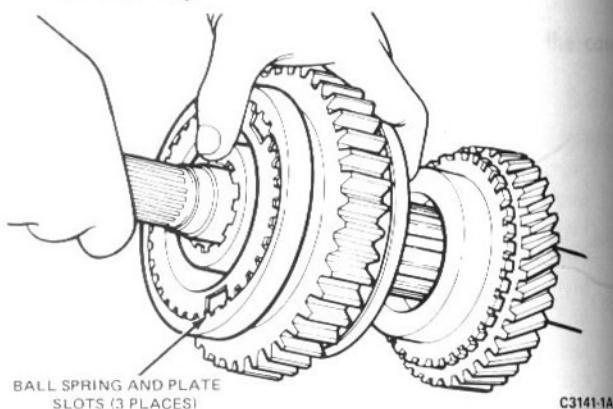

FIG. 15 Removing Second Gear Synchronizer—Assembly
4. Slide the low and second speed gear off the hub. Be careful not to lose any of the balls, springs, or plates nor the anti-rattle spring and ball (Fig. 15 and 16).